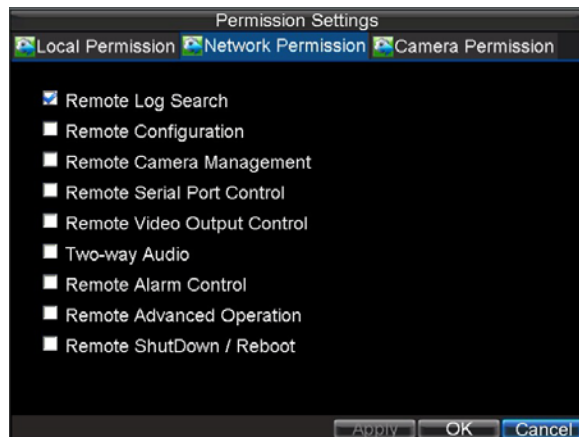

Figure 7. Network Privileges Menu
7. Click on the **Network Permission** tab to configure network privileges, as shown in Figure 7. The network settings include: